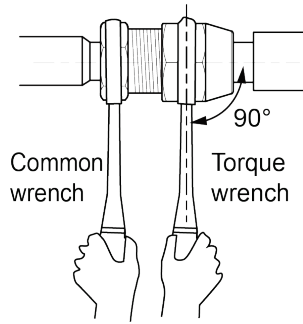

Fig. 17
- (3) Use torque wrench to twist on the flared nut tightly until the wrench gives out a click sound (Hold the handle of wrench and make it at right angle to the pipe. as in Fig.17).
- (4) Use sponge to wrap the un-insulated connection pipe and joint. Then tie the sponge tightly with plastic tape.
- (5) Connection pipe should be supported by a bearer rather than the unit.
- (6) The bending angle of piping should not be too small, otherwise the piping might have cracks. Please use a pipe bender to bend the pipe.
(7) When connecting IDU with connection pipe, do not pull the big and small joints of IDU with force in case the capillary tube or other tubes have cracks and cause leakage.